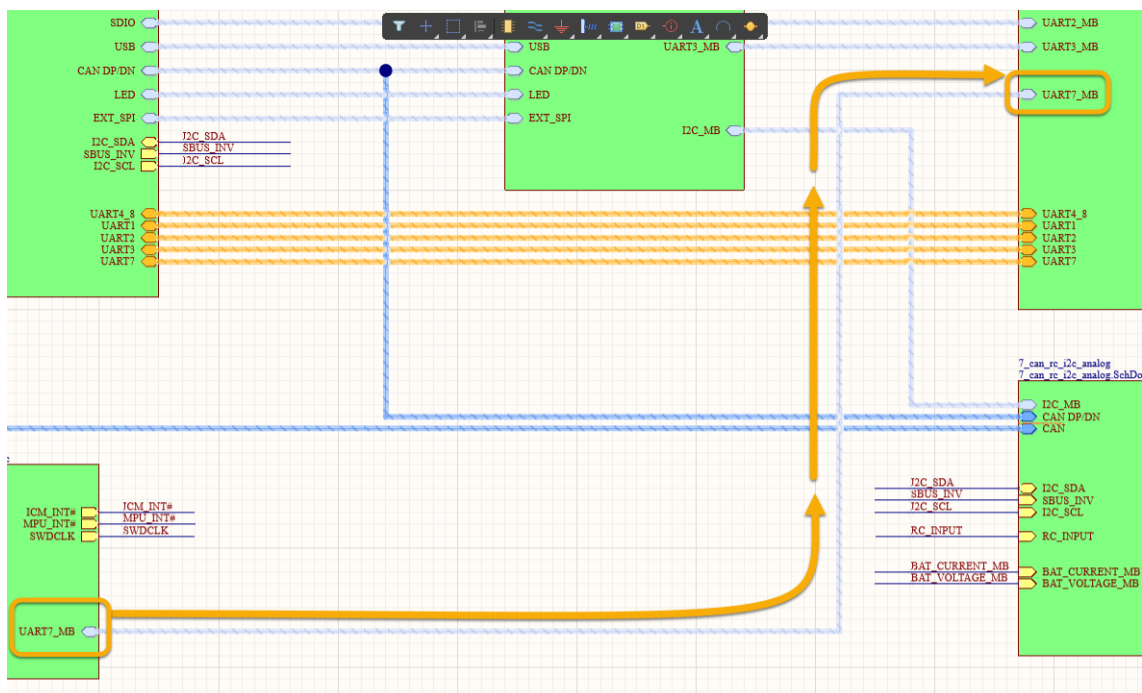

Figure 21. First part of Signal Harness
- Start drawing the Signal Harness at the existing Sheet Entry `UART7_MB` from Sheet Symbol `8_imu&debug_conn.SchDoc` as shown in Figure 21.
- Draw the Signal Harness to sheet symbol `6_uart_esc_i2c` following the arrow, similar to what is shown in Figure 21.